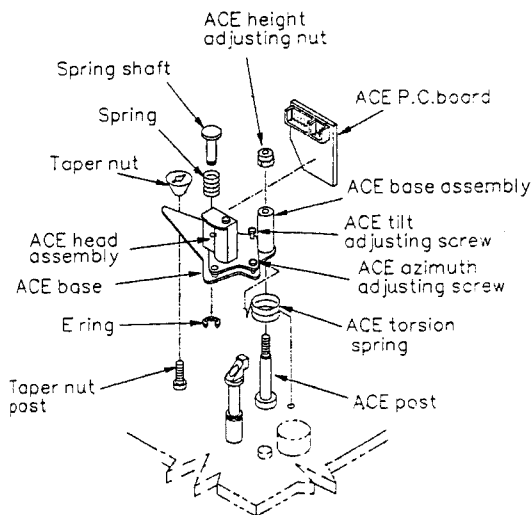

Fig. 4-3-1 Replacement of ACE head assembly
4. Turn the ACE height adjusting nut counterclockwise and remove the nut in order to remove ACE base assembly. (Fig. 4-3-1)